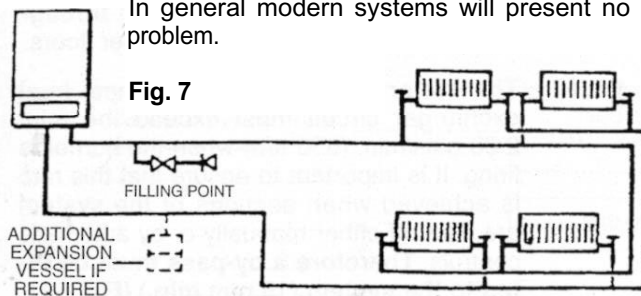

Fig. 7
4.8.6 The appliance has an integral sealed expansion vessel to accommodate the increase of water volume when the system is heated. It can accept up to 1.5 gal (7 lts) of expansion water. If the appliance is connected to a system with an unusually high water content, calculate the total expansion and add additional sealed expansion capacity as appropriate (Fig. 7).
(Fig. 7)
If the capacity of the central heating system should exceed 110 litres, **an additional vessel may be installed if required on the return to the combination boiler from the heating system (Fig. 7). Guidance on vessel sizing is given in (Table 3).**